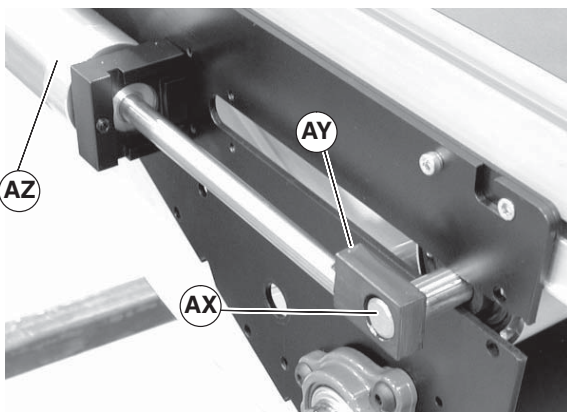

Figure 26
9. Push shaft (Figure 26, item AX) through block (AY) on opposite side of center drive, slide block toward air cylinder (AZ).